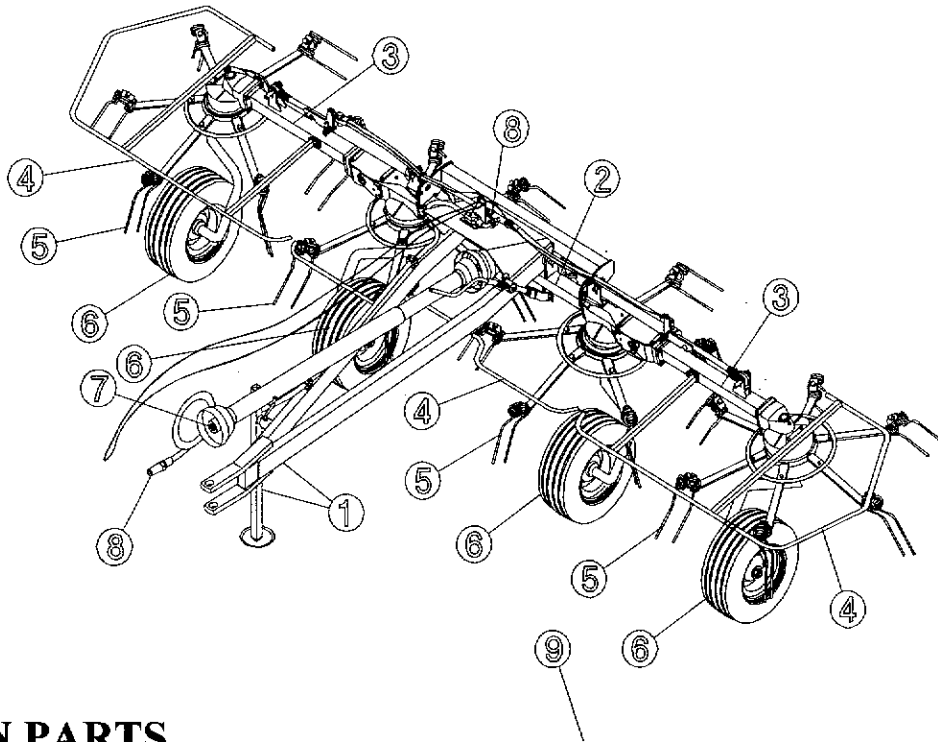

**FIG. 2**
36. Always disengage the power take-off when the Cardan (P.T.O.) shaft is at too wide an angle (it should never be more than 35° - Fig.2) and when it is not in use.